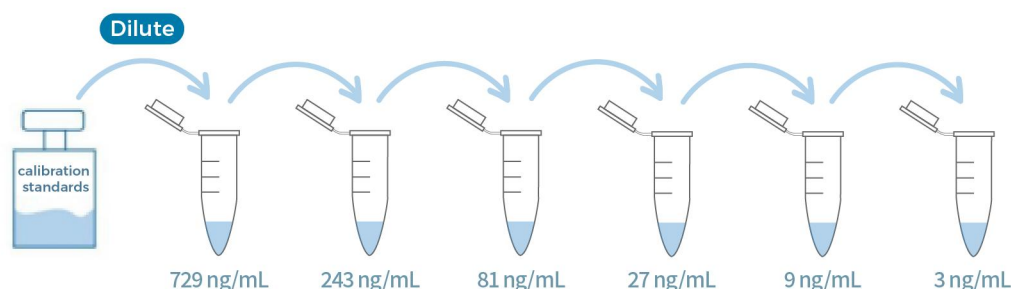

Figure 3. Graphic scheme of *E.coli* HCP-AC Calibration Standard Solutions
(3) Preparation of Calibration Standard Solutions
- Prepare *E.coli* HCP-AC Calibration Standard Solutions as indicated in Fig 3 and Table 3.